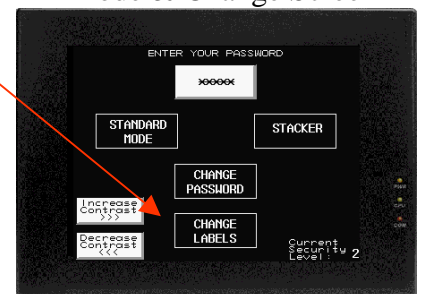

Fig 6
- 6 Press "Change Label" (fig 6)